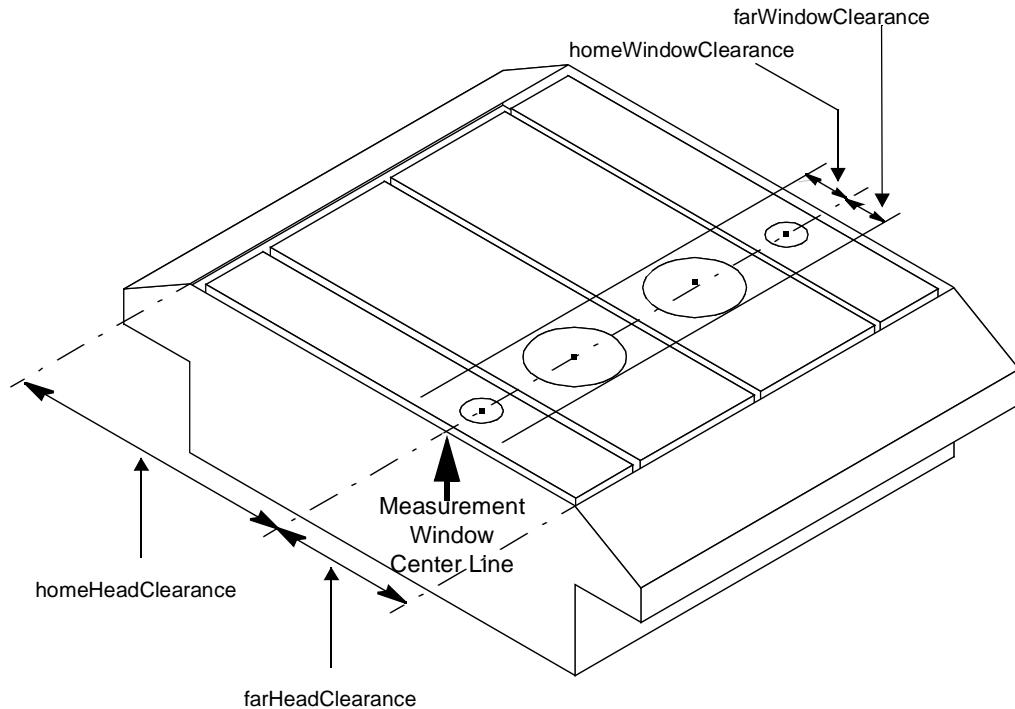

Figure 5-15 Location of Head Package Measurements
homeWindowClearance	This variable represents the distance, on the home-side of the head package, from the measurement center line to the edge of the largest sensor window in the head package. The window radii will range from approximately 0.5 in. for a Smart Ash sensor to 2.5 in. for a HemiPlus sensor (see Figure 5-15).
farWindowClearance	This variable represents the distance, on the far-side of the head package, from the measurement center line to the edge of the largest sensor window in the head. The window radii will range from approximately 0.5 in. for a Smart Ash sensor to 2.5 in. for a HemiPlus sensor (see Figure 5-15).
The locations of these positions on a Scanning Platform sensor head package are shown in Figure 5-15.
4. Determine the values for *farWindowClearance* and *homeWindowClearance* from Figure 5-15 on page 94. Table 5-4 on page 96 gives typical measurement area diameters for each sensor.